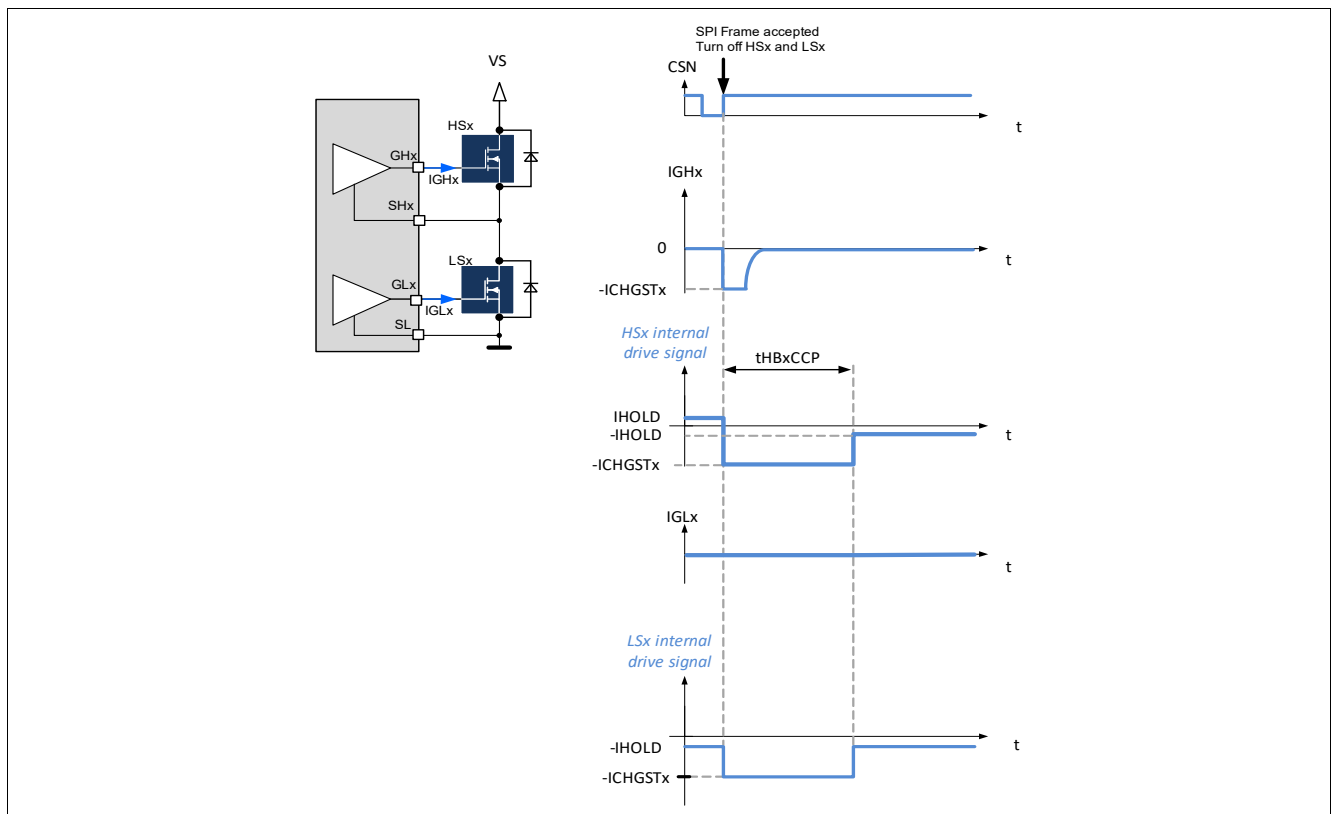

Figure 9 Turn-off of the high-side and low-side MOSFETs of a half-bridge
- the gate of HSx and LSx are discharged with the current -ICHGSTx for the duration  $t_{HBxCCP Active}$  (Figure 9)